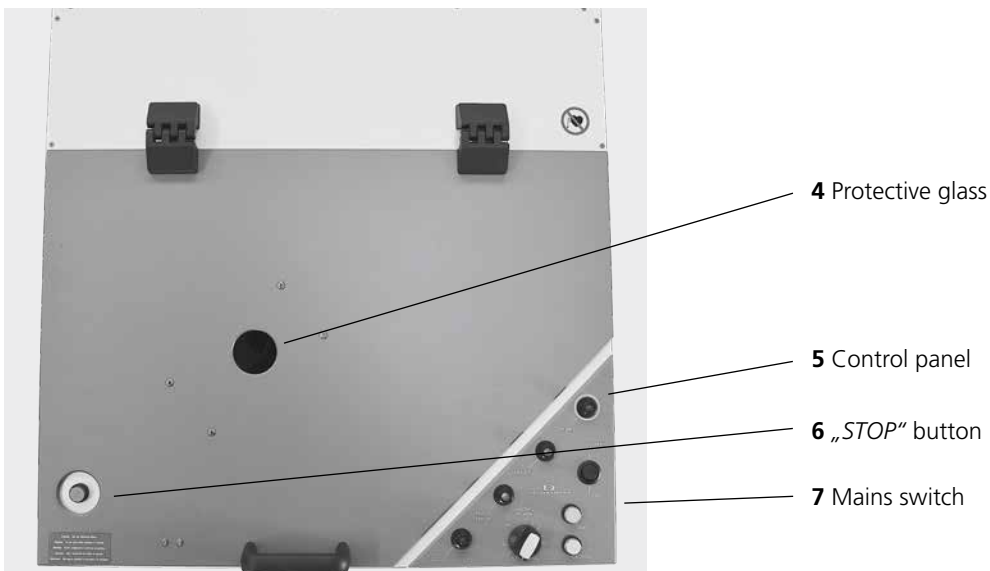

Fig. 2: View from above
- The melting process is started by closing the lid and can be observed through the protective glass integrated within the lid (Fig. 2, Pos. 4).
- Switch the machine on at the mains switch (Fig. 2, Pos. 7)